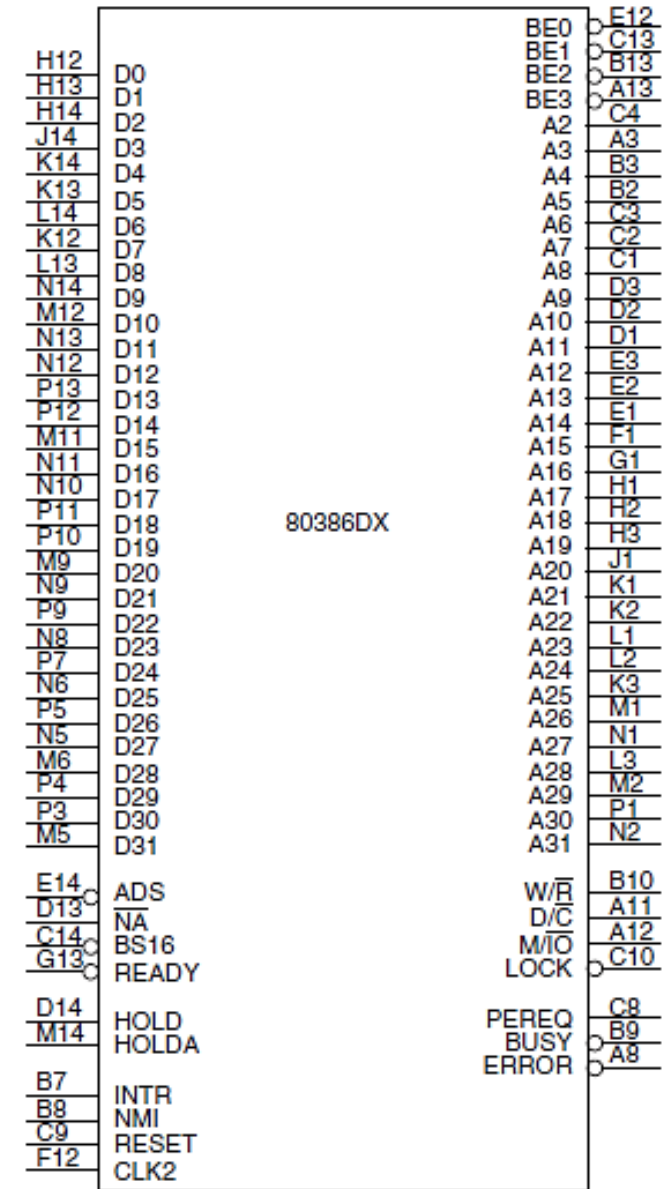

FIGURE 1 The pin-outs of the 80386DX
- ❑ Figure 1 illustrates the pin-out of the 80386DX microprocessor. The 80386DX is packaged in a 132-pin PGA (pin grid array).